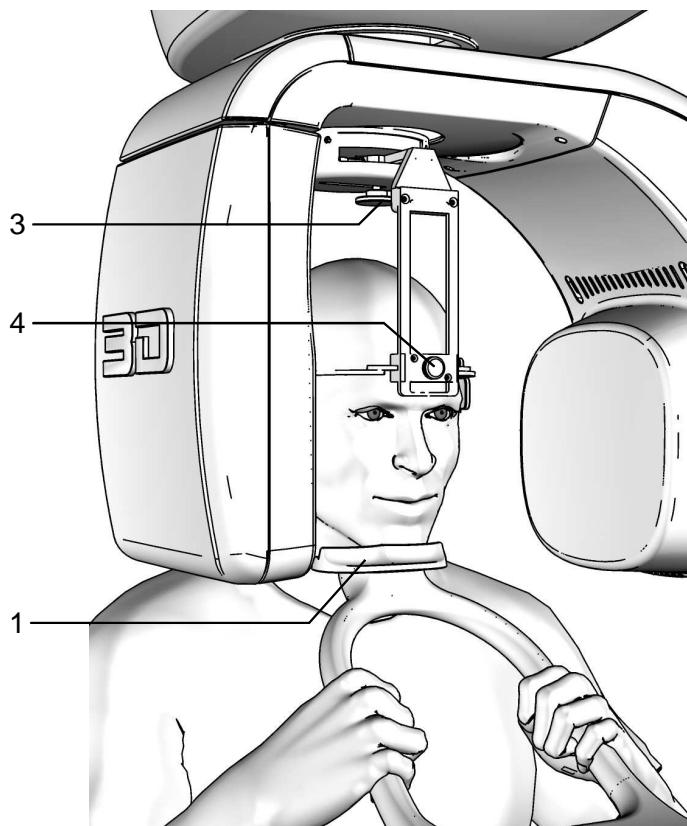

Figure 21 - 3D TMJ Right positioning
5. Check that the temple clamp device is in the 3D TMJ Right position (patient left side - Figure 10); if necessary move it into the correct position by means of the knob (Figure 21).
4. Place the patient in the temple clamp (Figure 21) by placing the chin on the surface of the relevant support; the hands should rest on the front handgrips; the patient must rest his chin against the reference on the chin support, using the left side (patient entrance view) of the support itself.
6. Place the temple clamp in contact with the patient's head by means of the appropriate knob (Figure 21). In order to help the patient maintain the correct posture, use the head strip on the temple clamp passing it behind the nape of the patient's neck; check that, during this phase, the patient has not changed position.